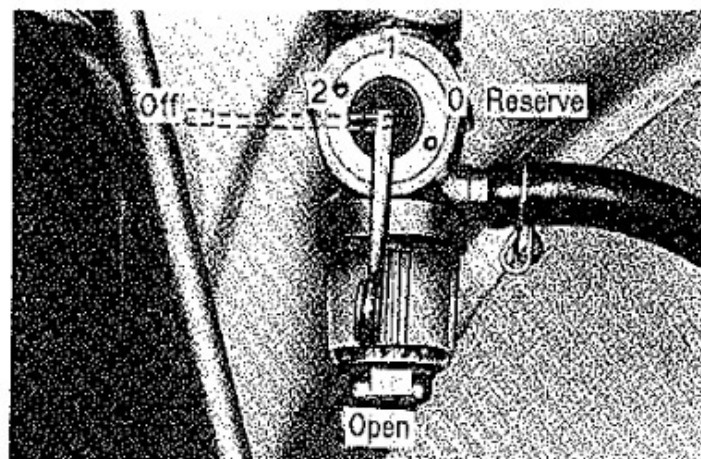

Fig. 1
- (1) Turn the fuel cock lever down to open position as (Fig. 1)